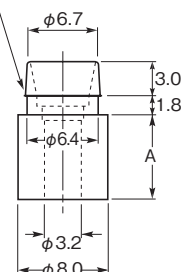

Fig. 2
- Either the exterior channels (shown in Fig.1) or the central ellipse (shown in Fig.2) of a spacer can be used.